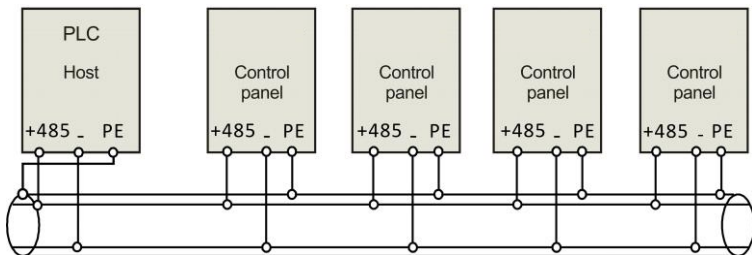
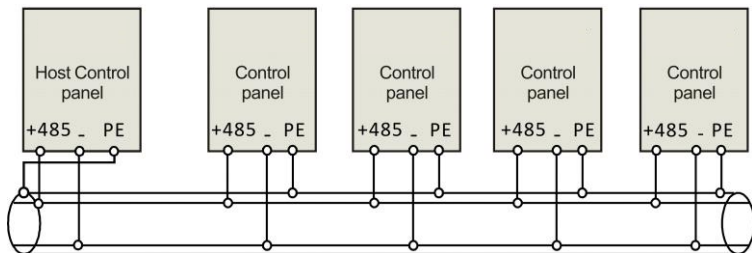

Fig. 3-12 PLC communication with multi VFD
Fig. 3-13 Multi VFD communication
(3) Multi VFD can communicate via RS485, controlled by PC/PLC as a Master shown as Fig.3-12. It also can be controlled by one of VFD as a Master shown as Fig.3-13